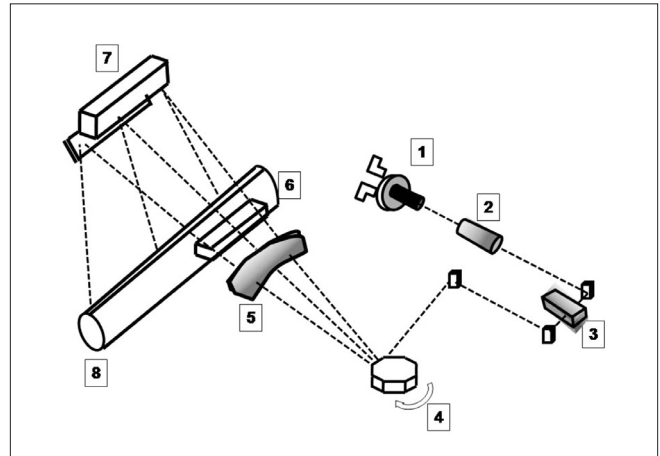

Figure 4: The laser optical system. 1: Laser, 2: lens, 3: laser modulator, 4: polygonal mirror, 5: toroidal lens, 6: mirrors, 7: film transport, 8: rollers
c. Dry laser camera technology: It is a two-step process involving a laser diode optic system and photothermography [Figure 4]. The creation of a latent image using either optics or heat is followed by its conversion to a true image by photothermography.^[7] The latent image is initiated by a laser beam that releases